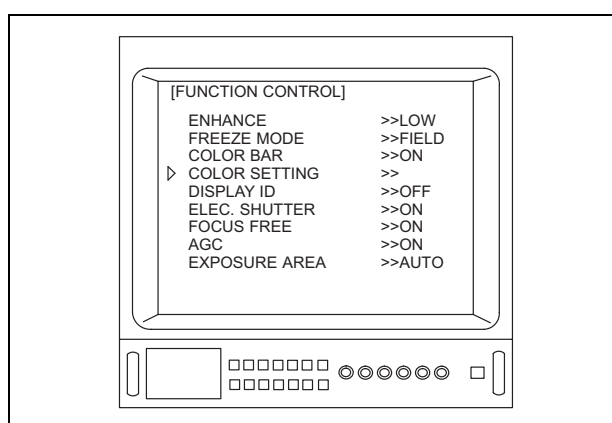

Figure 5.21
4. Depress the menu switches “” or “”, or the “” key on the keyboard move the arrow “” to “COLOR SETTING” (see Figure 5.21).
- When the OTV-S7V is connected to the ENF-V, CYF-V/VA or HYF-V, “ELEC. SHUTTER” and “EXPOSURE AREA” shown in Figure 5.21 are not displayed.
- When the OTV-S7V is connected to the LTF-V3 or A500**A series, “EXPOSURE AREA” shown in Figure 5.21 is not displayed.
- When the OTV-S7V is connected to a camera head without the focus free function, or to a videoscope, “FOCUS FREE” shown in Figure 5.21 is not displayed.
- Depending upon the OTV-S7V’s settings, the menus shown in Figures 5.21, 5.22, 5.23 and/or 5.24 may appear different from those displayed on the video monitor.
4. Depress the menu switches “” or “”, or the “” key on the keyboard to move the arrow “” to “COLOR SETTING” (see Figure 5.21).